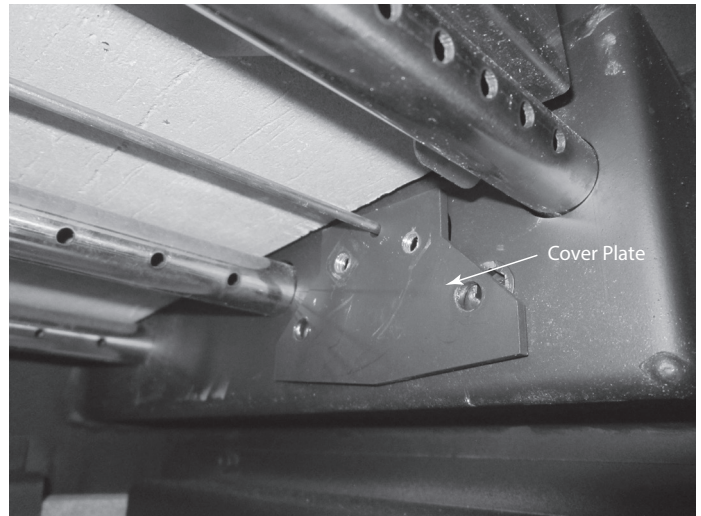

Figure 4.7 Remove Cover Plate
- Using a 3/16" Allen wrench, remove the cover plate and slide it off the thermocouple. See Figure 4.7.